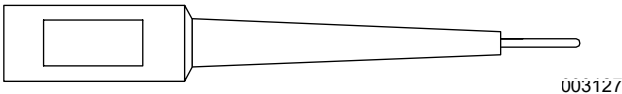

Figure 2-7. Narrow Test Probe
- Meter test leads capable of measuring voltage inside a connector without damaging the socket. A set of Black and Red test leads for this application are available from the manufacturer. Contact your nearest servicing dealer for more information. See Figure 2-7.
- Meter test leads capable of measuring voltage inside a connector without damaging the socket. A set of test leads for this application are available from the manufacturer. See Figure 2-7.